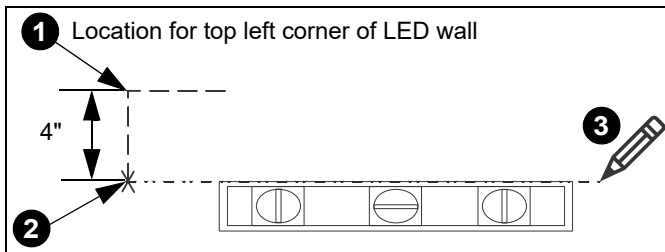
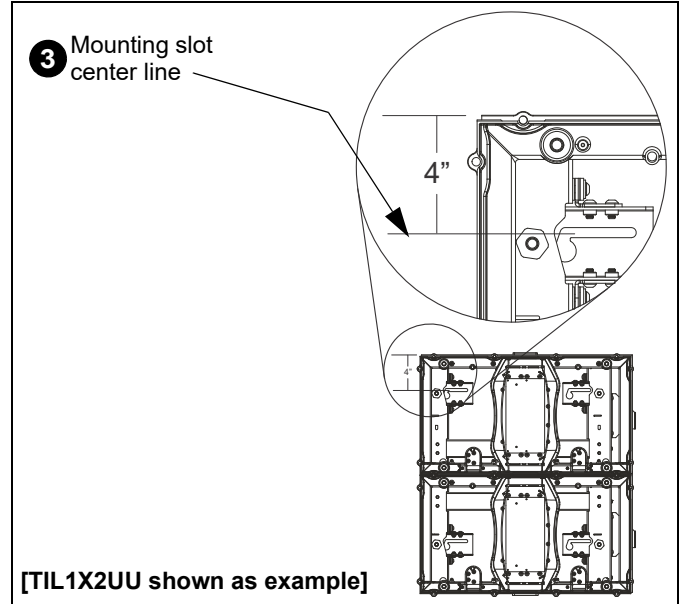

Figure 1
Figure 2
**IMPORTANT !** : The top of the LED screen is 4" above the center line of the mounting slots. (See Figure 1)
1. Determine location for the **top left** corner of the LED wall. (See Figure 1)
2. Make a mark 4" below the planned top left corner of the LED wall. (See Figure 1)
**NOTE:** This line will indicate the center line of the mounting slots for the top mount(s) in the video wall. (See Figure 1) and (See Figure 2)